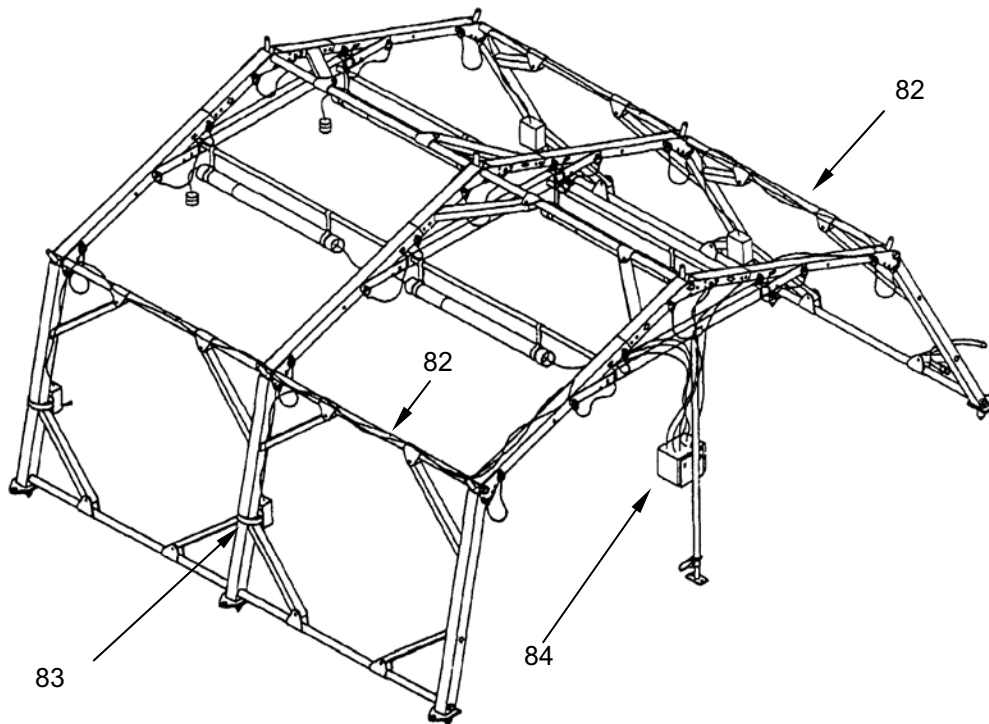

Figure 37. Install Power Distribution Panel, Electrical Cables, and Convenience Outlets.
1. Place the cables (**Figure 37, Item 82**) and convenience outlets (**Figure 37, Item 83**) in tent and connect cables to distribution box (**Figure 37, Item 84**) as shown.
2. Place power panel stand (**Figure 37, Item 85**) between liner and tent fabric at left entrance side of tent.
3. Disconnect quick release pin (**Figure 37, Item 11**) at the bottom of stand.
4. Extend outer column of stand to engage frame header in U-clamp (**Figure 37, Item 86**).